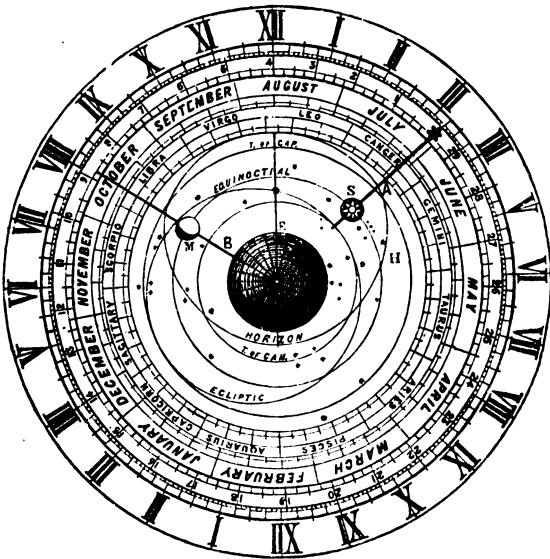

Fig. 1.
*nomische Pendeluhr.*—(1) A clock showing the comparative motion of the heavenly bodies.
(2) A clock with the hour circle divided into 24.
Ferguson's Astronomical clock is shown in Figs. 1 and 2. Fig 1 is the dial, which is made up of four pieces. (1) The outer ring divided into the 24 hours of a day and night, and each hour sub-divided into 12, so that each sub-division represents 5 mins. of time. (2) The age-of-the-moon ring, lying in the same plane as the hour ring, is divided into 29.5 equal parts, and carries a *fleur-de-lis* to point out the time on the hour circle. A wire ( $\Delta$ ) continued from the *fleur-de-lis* supports the sun (s). (3) Within, and a little below, is a plate, on the outer edge of which are the months and days of the year; further in is a circle containing the signs and degrees of the ecliptic. Further in, on the same plate, the ecliptic, equinoctial, and tropics are laid down, as well as all the stars of the first, second, and third magnitude, according to their right ascension and declination, those of the first magnitude being distinguished by eight points, the second by 6, and the third by 5. (4) Over the middle of this plate, and a little above it,